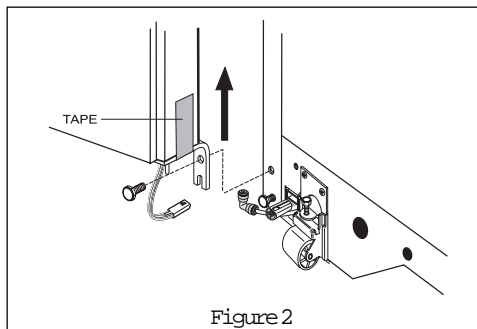

Figure 2
8. Carefully lift the door up and off the loosened lower hinge bolt. (Figure 2)